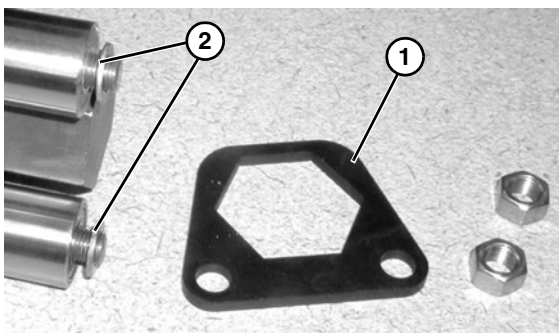

Figure 51
- Remove support plates (**Figure 51, item 1**) and washers (**Figure 51, item 2**).